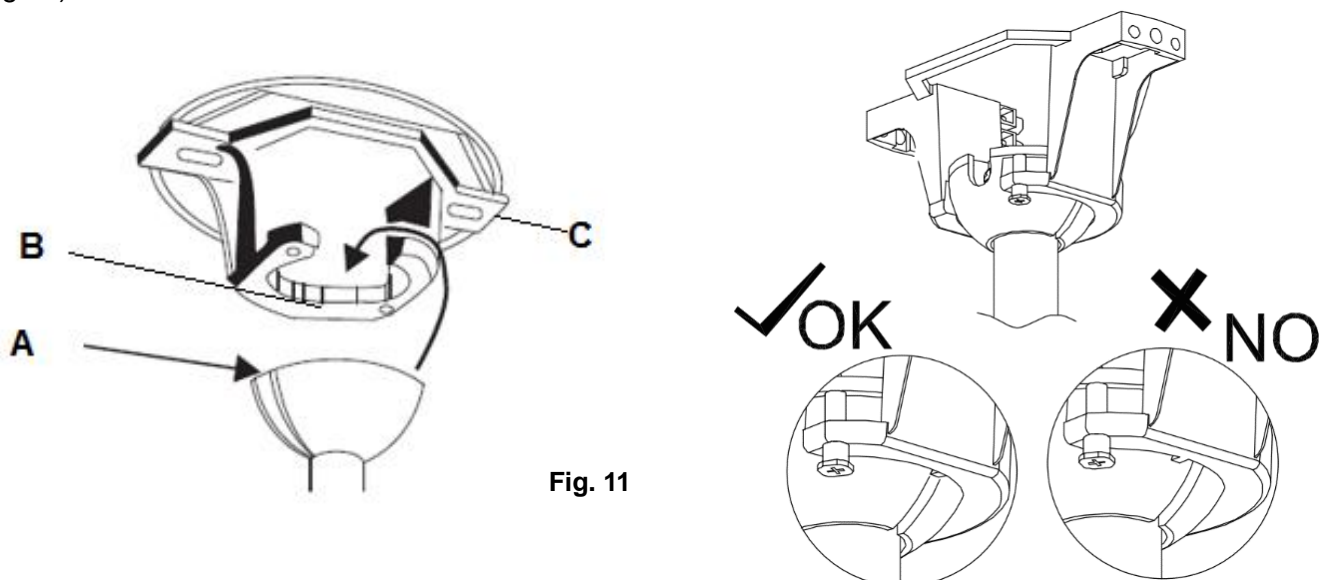

Fig. 11
Lift the fan assembly onto the mounting bracket. Ensure the registration slot (A) of the hanger ball is positioned on the stopper (B) of the mounting bracket (C) to prevent the fan from rotating when in operation. (Fig.11)